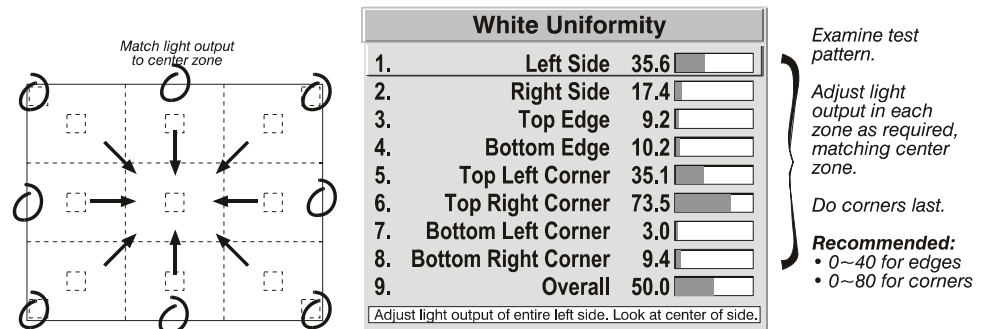

Figure 3.22. Match Zones to Center Light Output
- 3a)** For each screen, compare the light output of each *edge* and *corner* to that of the *center*. If any of the areas differ, use the *White Uniformity* menu to match edges and corners to the center as described below (see Figure 3.22). Begin with the screen exhibiting the most obvious variations in light output.